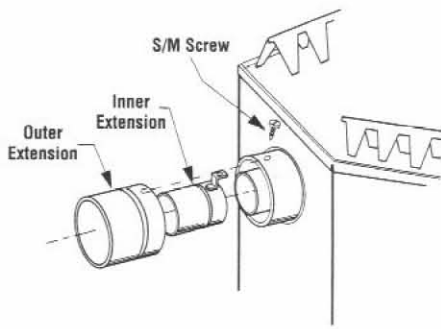

Figure 11
D. Slide the outer extension on the outer appliance collar and tighten the screw to secure the inner and outer extension (Refer to *Figure 11*).
A. Inner Extension - Slide inner connector, from the termination kit, over the extension and align hole in connector with hole located 1/2" (13 mm) from the end of extension. Align holes and secure with two (2) #8 x 1/2" sheet metal screws provided.
C. Slide the outer extension on the outer appliance collar and tighten the screw to secure the inner and outer extension (Refer to Figure 11).
D. Slide outer connector, from termination kit, over outer extension and align with holes, located 1/4" (6 mm) from end of extension. Secure with two (2) #8 x 1/2" sheet metal screws.